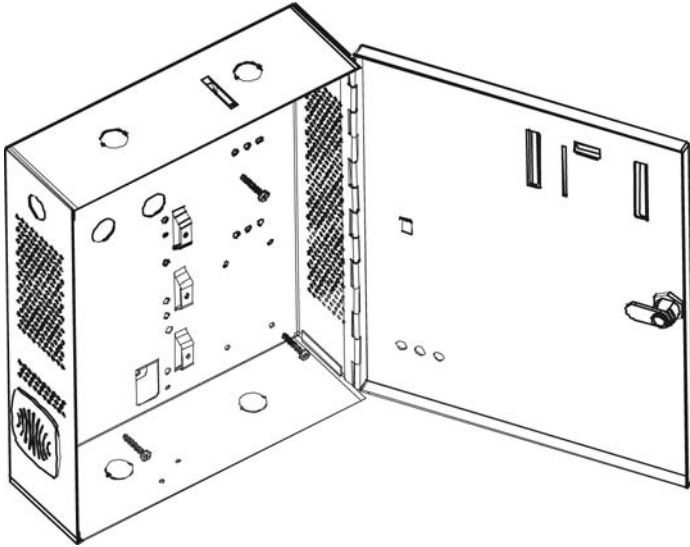

Figure 29: ME-01 Wall Mounting
4. Mount the ME-01 enclosure onto the wall as shown in Figure 29, on page 40